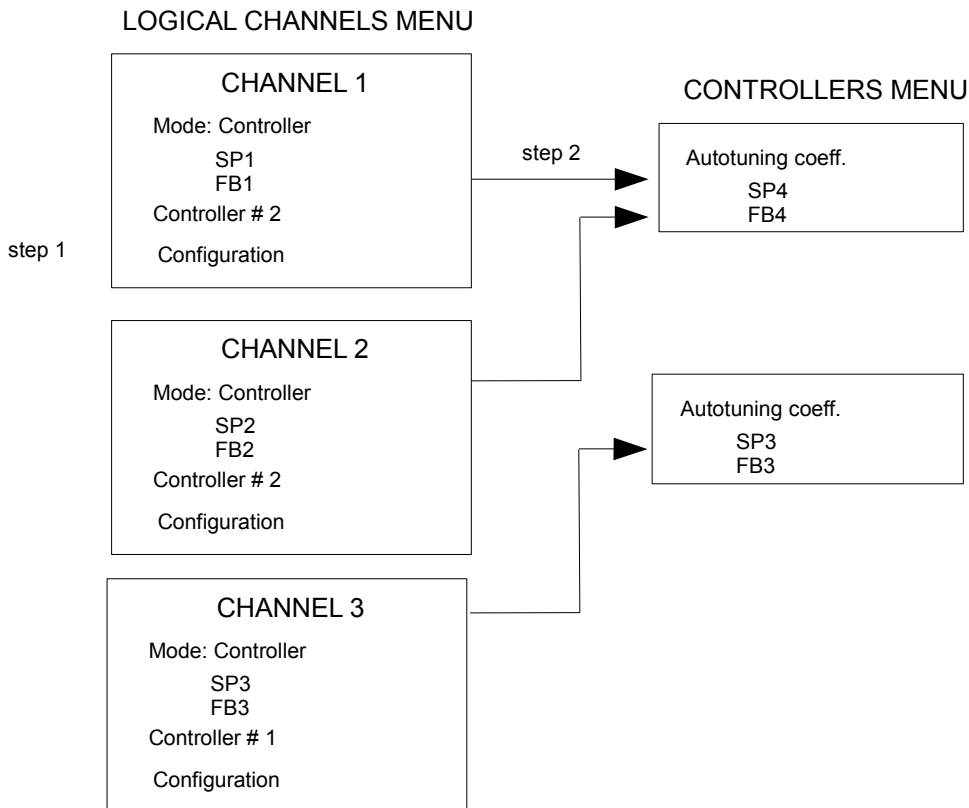

Fig. 7.123. Configuration diagram of the **Controller** using *Logical channels Menu*
- directly in the Logical channel in the Regulator mode by pressing the button Source configuration (see **Fig. 7.123**).